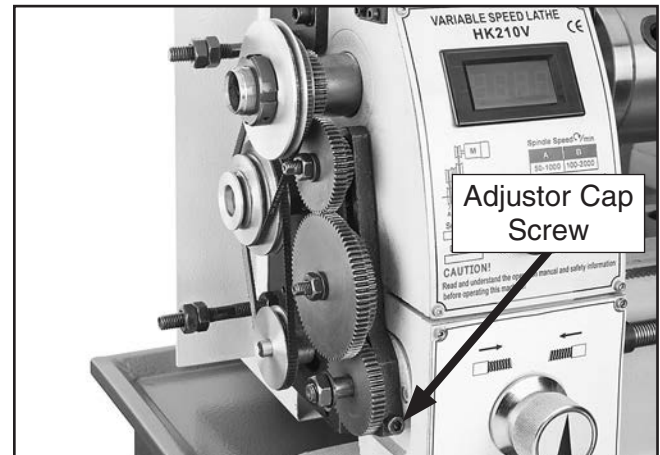

Figure 92. Adjustor cap screw location.
5. Loosen adjuster cap screw shown in **Figure 92**, and pivot adjuster down to disengage gears.